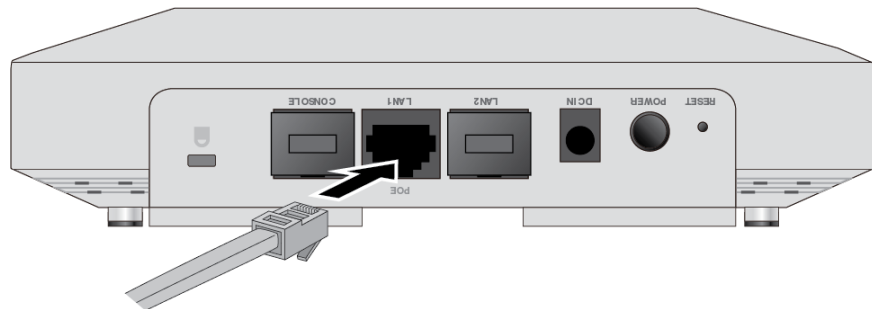

Figure 20. Connecting an Ethernet Cable to the LAN1 Port
1. To cable LAN1 port, connect an Ethernet cable into the port. The cable requirements are in “Cable Requirements” on page 29. Refer to Figure 20.